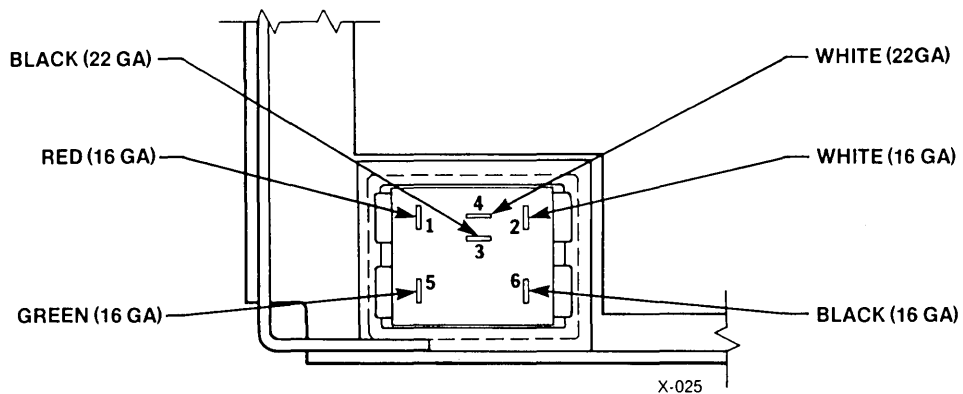

Figure 4-12. Rear View of AC Power Switch
8. Place the replacement switch in the proper position and reconnect the six terminal lugs to the replacement switch. Viewing the back of the switch, connect the terminal lugs to the switch as shown in Figure 4-12.